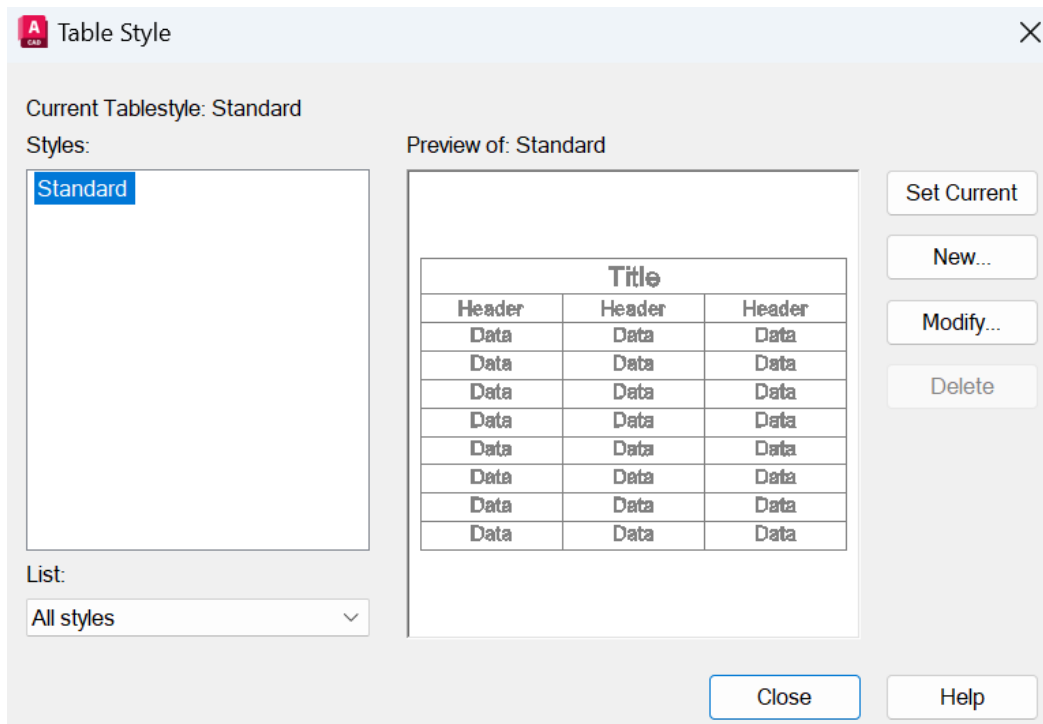

Figure 7.32: The Table Style dialog box
3. Using either method to access table styles, you will end up with the **Table Style** dialog box being displayed, as shown in *Figure 7.32*.